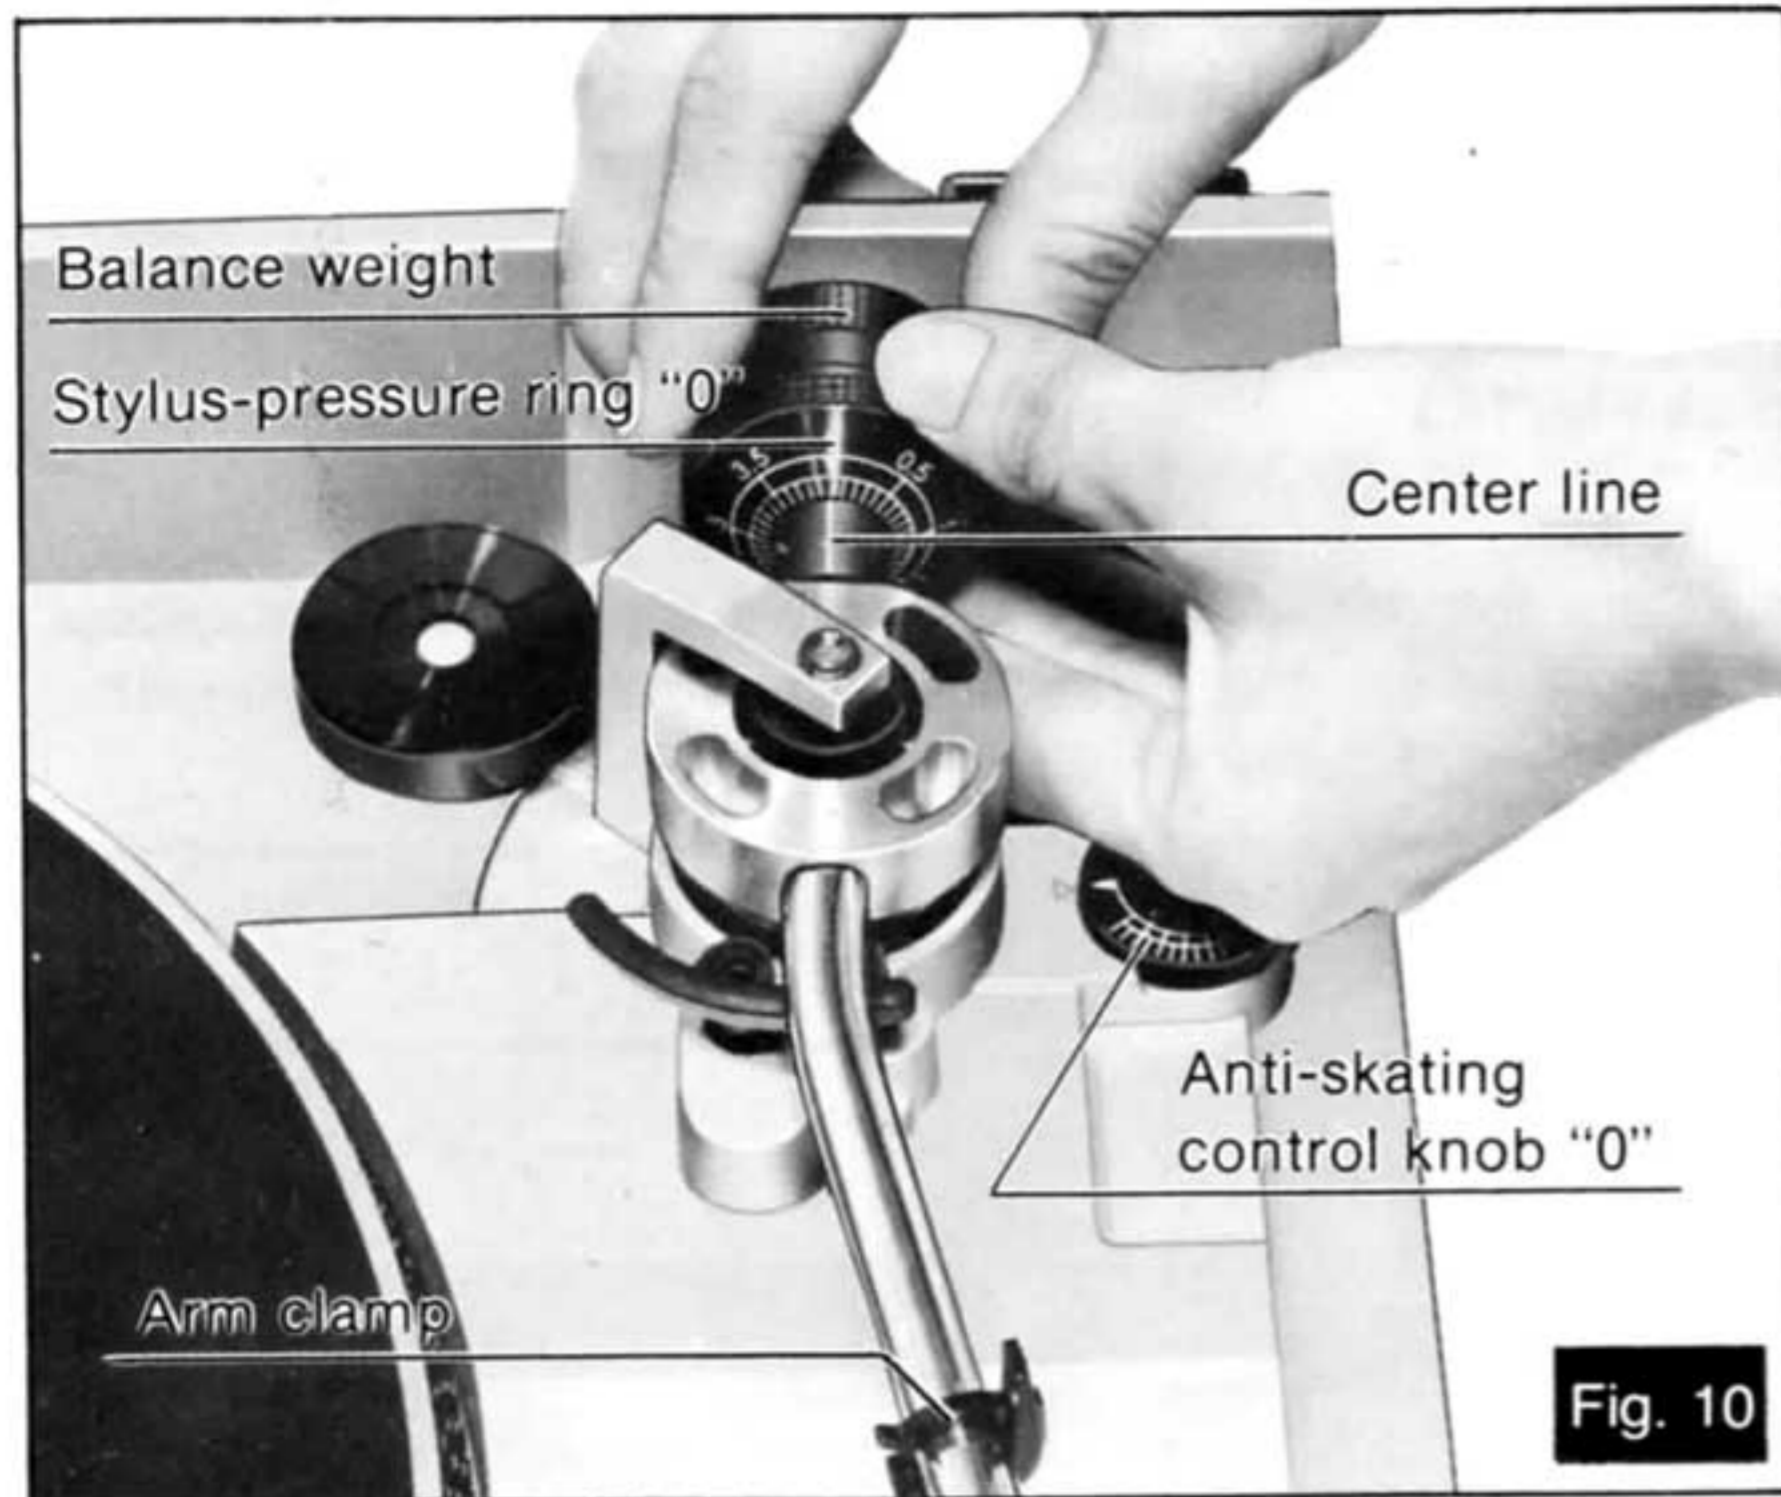

Fig. 10
5. Hold the balance weight stationary with one hand, as shown in the picture, and rotate only the stylus-pressure ring to bring the numeral "0" of the ring into alignment with the center line of the tonearm rear shaft. The adjustment of the horizontal "0" balance is now completed. (See Fig. 10.)